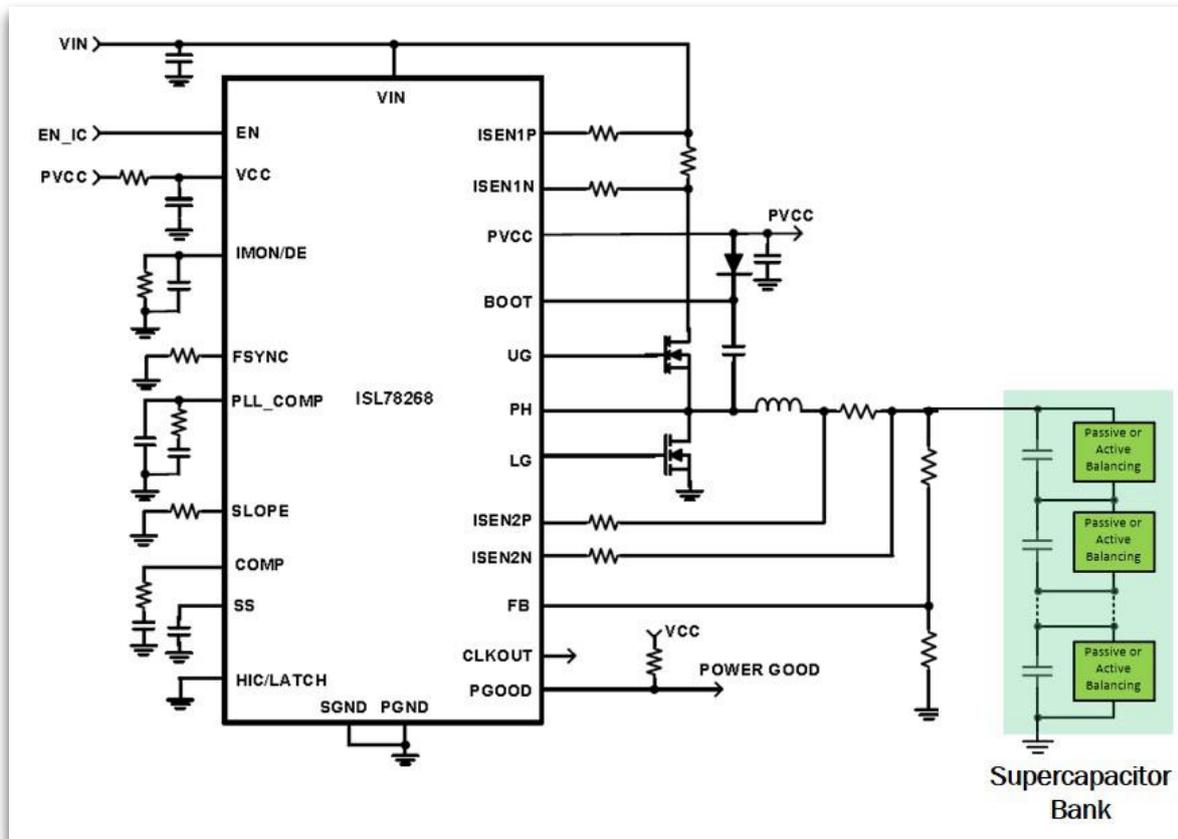

Figure 3. Simplified Schematic of a Sync Buck Regulator Achieving CICV SC Charging Control
Figure 3 shows the simplified schematic of Intersil's ISL78268 controlling a sync buck regulator that achieves CICV control. To charge a supercapacitor bank to 25V with CICV control, the following capabilities were considered when selecting the controller:
3. Accurate current sense inputs for the CI portion that operate over the supply voltages of the system. Referring to Figure 3, the controller is sensing the inductor's continuous current, which is the charging current. The controller's